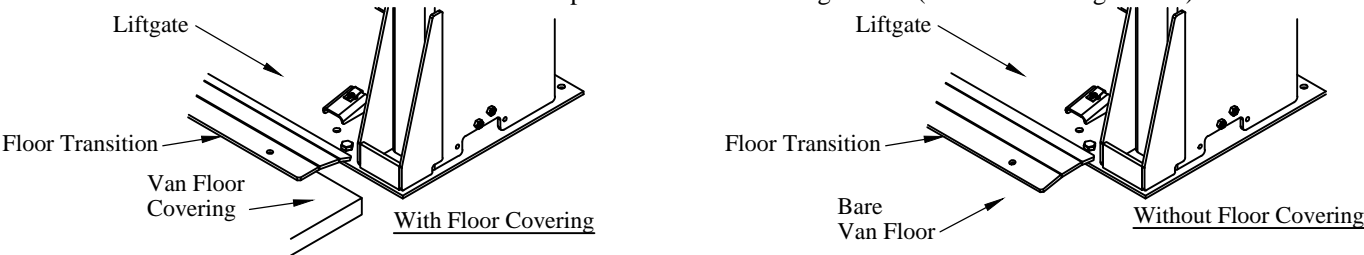

Figure 17: Floor transition.
1. **Position** the floor transition with one side on the liftgate and the other side on the van floor (Figure 17).